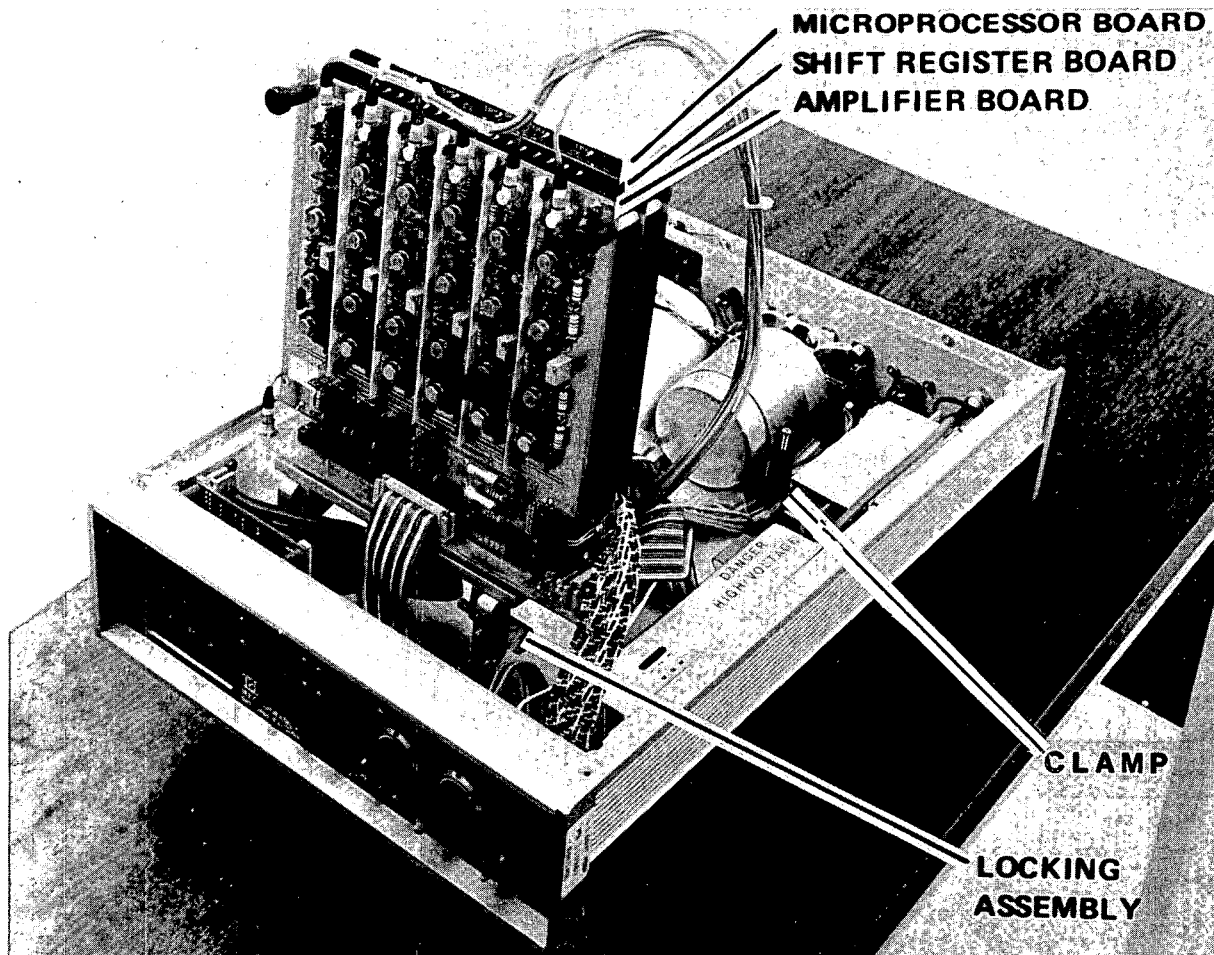

Fig. 2.
2. Rotate and lock board assembly in vertical position (Fig. 2).
3. Remove boards. Boards (from front to back) are amplifier board, shift-register board, and microprocessor board (Fig. 2).